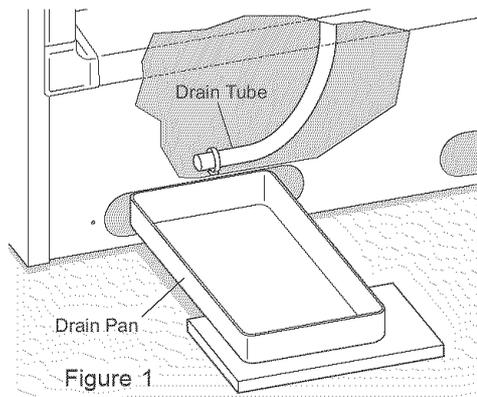

Figure 1
2. Remove two base screws and base panel. Remove wire from clips on bottom of cabinet. (Figure 1)
3. Unplug connector, if required, by holding the cabinet connector in place, and pulling door connector out. (Figure 1)
4. Remove bottom hinge screws. (Figure 1)
Temp Alarm (audible only or audible with warning light - see Figure 1)
- **On upright models** with a defrost drain (Figure 1), remove drain plug on the inside floor of the freezer by pulling straight out. To access external drain tube on models with a base panel, first remove the two screws from the base panel. Locate the drain tube near the left center under the freezer. Place a shallow pan under the drain tube. Defrost water will drain out. Check pan occasionally so water does not overflow. A $\frac{1}{2}$ inch garden hose adapter can be used to drain the freezer directly into a floor drain. If your model is not equipped with an adapter, one can be purchased at most hardware stores. Replace the drain plug when defrosting and cleaning are completed. If the drain is left open, warm air may enter freezer.